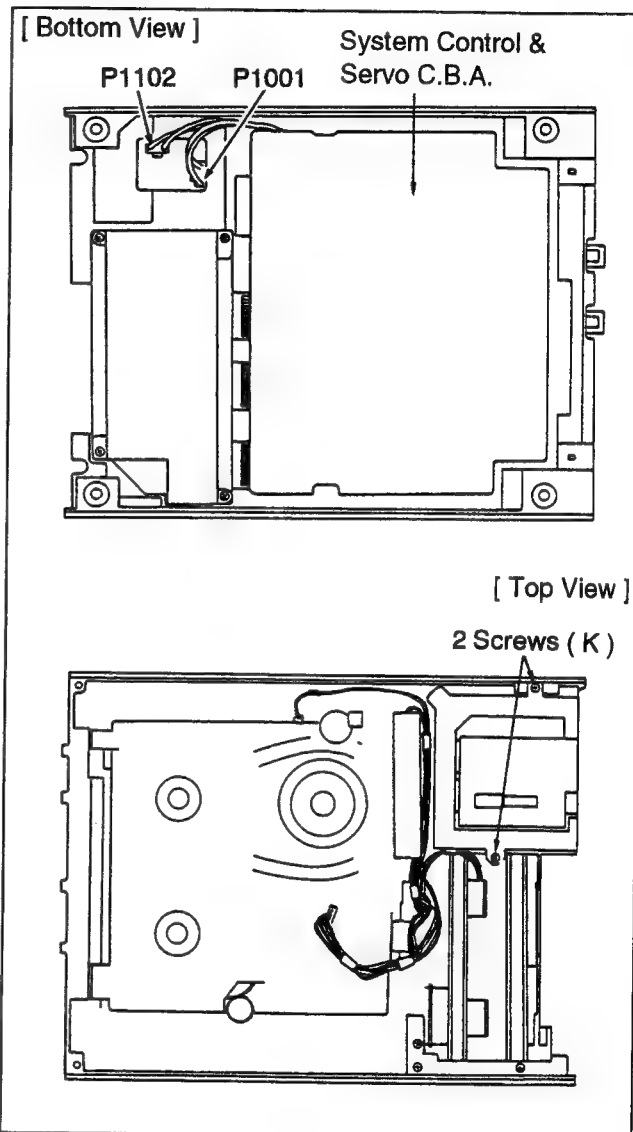

Figure D9
2. Unscrew 2 screws (K) on the Power Unit Shield Case (Figure D9.).